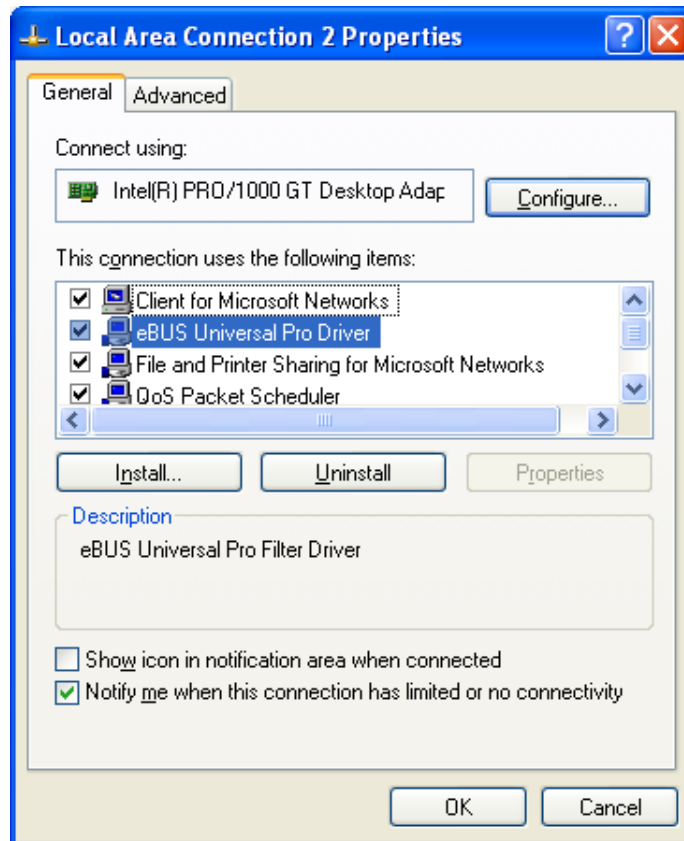
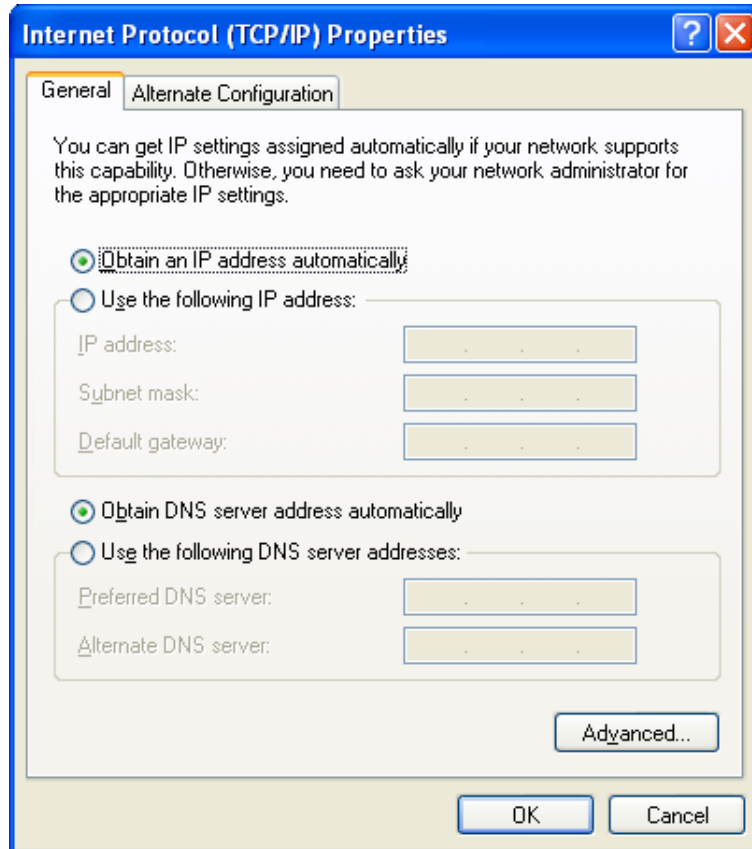
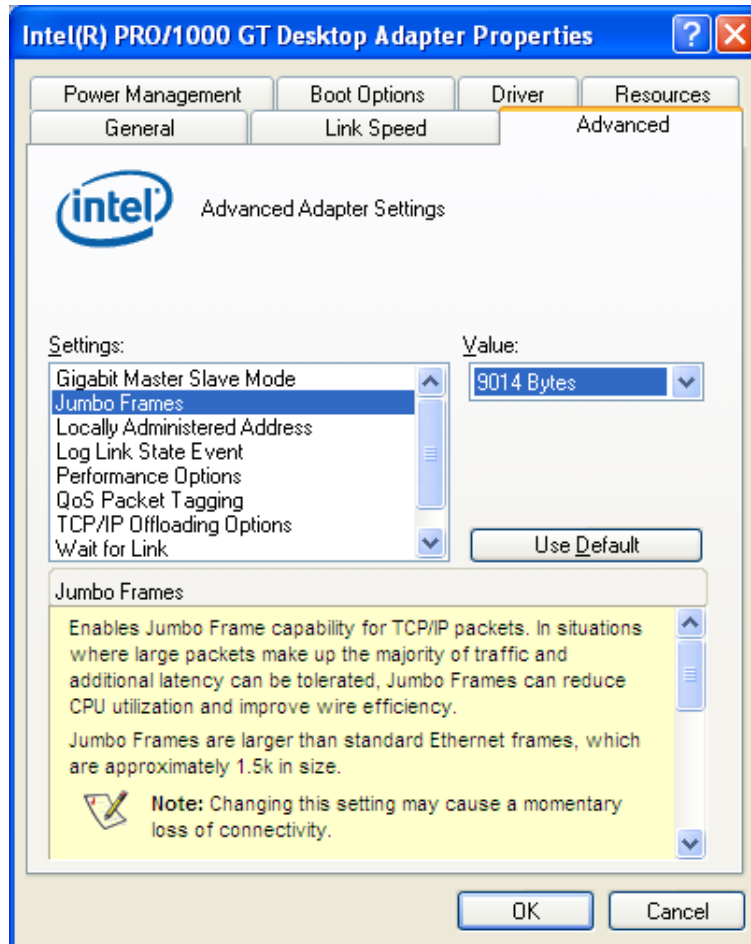

Figure 1.2: Local Area Connection Properties
Figure 1.3: TCP/IP Properties
Figure 1.4: Advanced Network Adapter Properties
2. By default, Photonfocus GigE Vision cameras are configured to obtain an IP address automatically. For this quick start guide it is recommended to configure the network adapter to obtain an IP address automatically. To do this, select Internet Protocol (TCP/IP) (see Fig. 1.2), click the Properties button and select Obtain an IP address automatically (see Fig. 1.3).
- Open again the Local Area Connection Properties window (see Fig. 1.2) and click on the Configure button. In the window that appears click on the Advanced tab and click on Jumbo Frames in the Settings list (see Fig. 1.4). The highest number gives the best performance. Some tools however don't support the value 16128. For this guide it is recommended to select 9014 Bytes in the Value list.